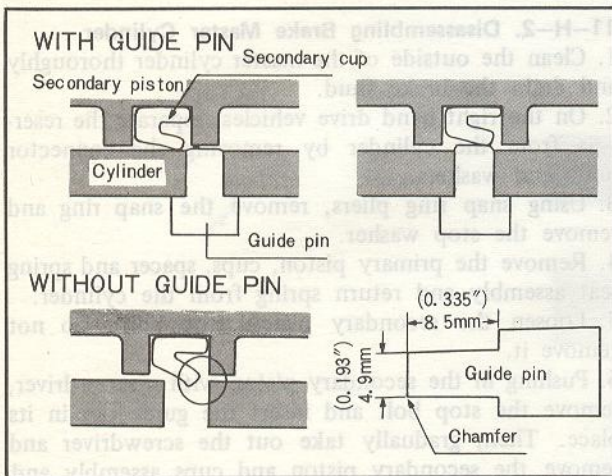

Fig. 11-60 Guide pin
6. Pushing in the secondary piston with a screwdriver, remove the stop bolt and insert the guide pin in its place. Then, gradually take out the screwdriver and remove the secondary piston and cups assembly and spring from the cylinder. (See Fig. 11-60.)